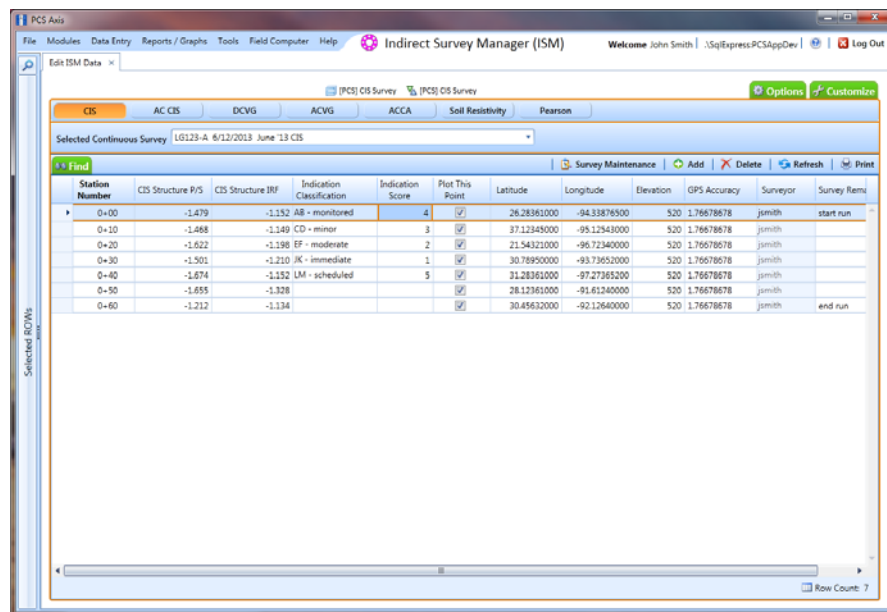

Figure 6-60. Edit ISM Data
- 3 Click **Data Entry > Edit ISM Data** to open the ISM data entry grid. Then click a button labeled with the type of continuous survey data you want to work with, such as the **CIS** button  (Figure 6-60).